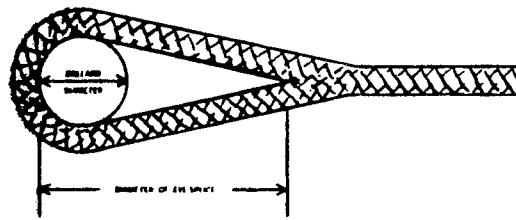

Fig. 2-27 Mooring line eye dimensions
3. Eye Splices. The ratio of the length of an eye-splice to the diameter of the object over which the eye is to be placed (bollard, bitt, cleat, etc.) shall be a minimum of 3 to 1, preferably 5 to 1. If you have a bollard two feet in diameter, the eye splice should be six to ten feet in length (See **Figure 2-27**). By using this ratio the angle of the two legs of the eye-splice, at its throat, will not be so severe to cause a parting in the eye.